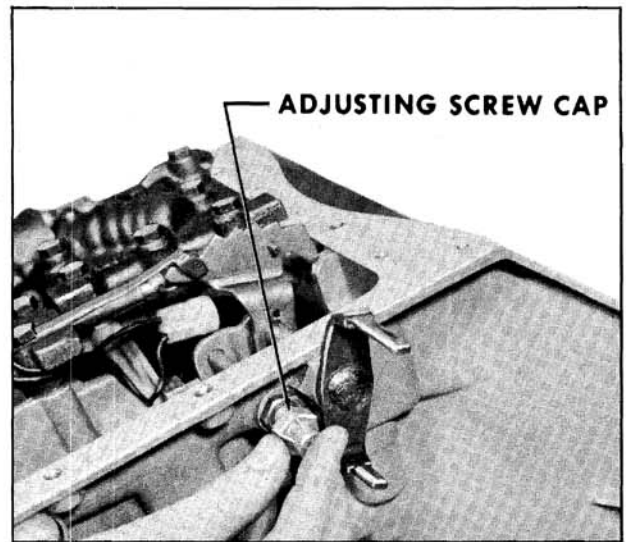

Fig. 6-518 Adjusting Screw Cap
3. Install adjusting screw cap. (Fig. 6-518)